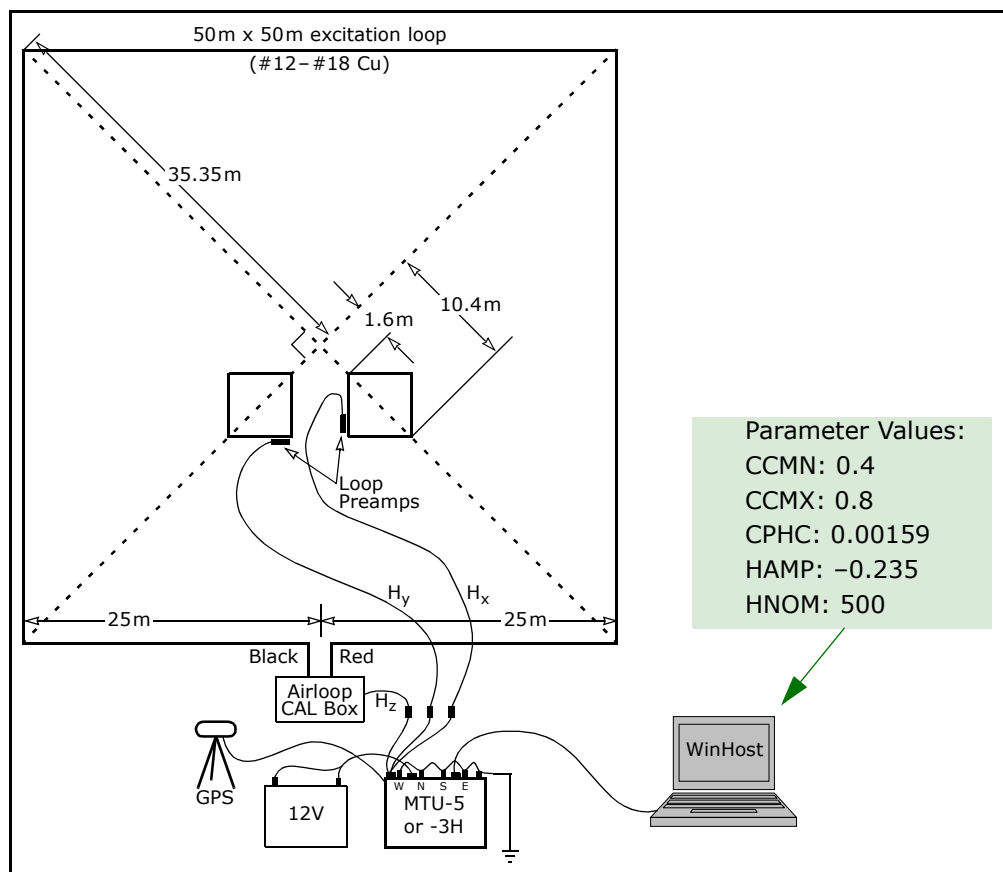

Figure 1: Physical Layout
1. Set up the Loop and MTU-5 box as shown in Figure 1.